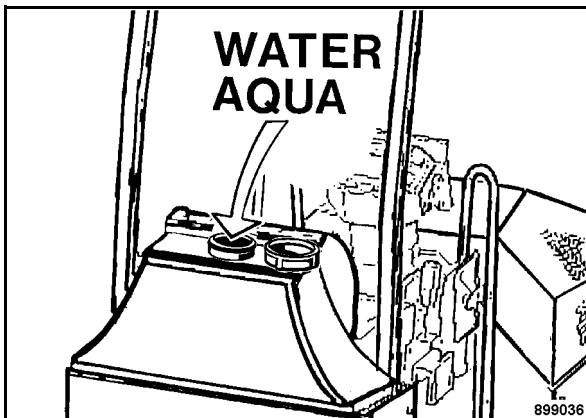

Fig. 64
- Open the lid (Fig. 64) and fill in as much water as is required, close the lid.